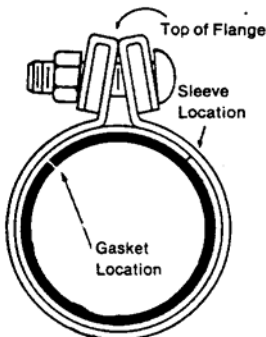

Fig. 3 Coupling Fully Tightened
8. When properly and evenly tightened to the recommended torque, the coupling installation is complete. The top edges of the flanges will touch and flanges appear as a vee when viewed from the end as shown in Figure 3